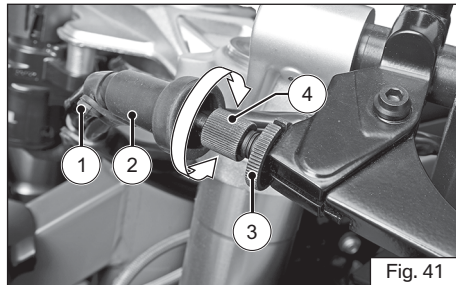

Fig. 41
- ♦ Remove the cable clamp (1). Pull back the dust cover (2) of clutch lever (ref. Fig. 41).
- ♦ Loosen the lock nut (3) and turn the adjuster (4) 'in' or 'out' till the specified play is obtained (ref. Fig. 41).
- ♦ Lock the lock nut (3) again.
- ♦ Re-fix the dust cover (2) and cable clamp (1).
- ♦ Loosen the lock nut (5) at the bottom end of the clutch cable (ref. Fig. 41).